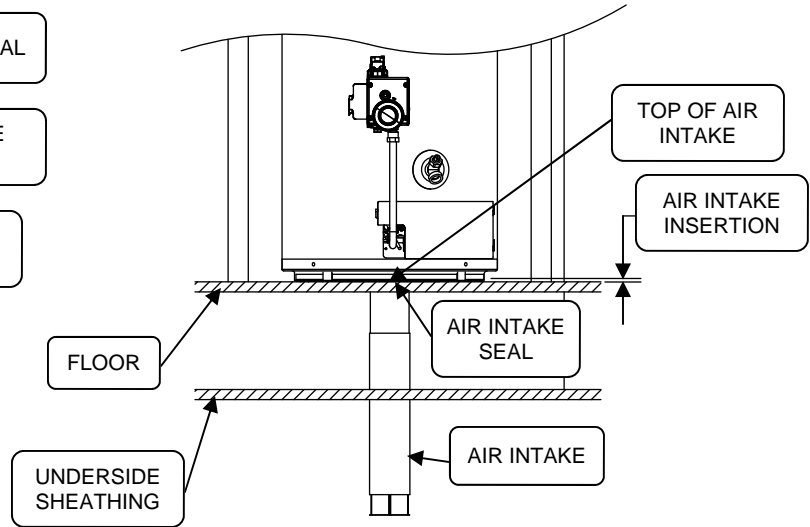

Figure 3
- Step 7. Adjust the air intake so the lower tube extends below the underside sheathing and secure (see Figure 3).
- Step 9. Position the water heater so the opening in the base will engage the air intake tube extending above the floor (see Figure 3).